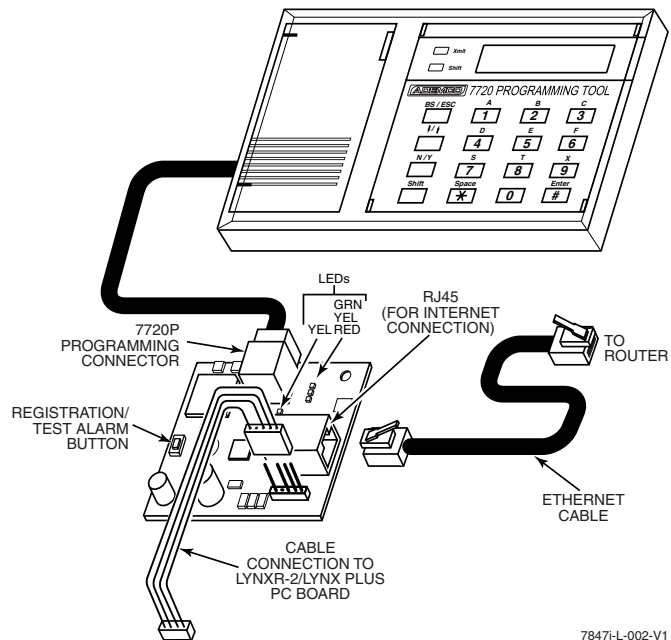

Figure 1 – Electrical/Ethernet Connections
1. Connect one end of the Ethernet cable (Category 5) to the RJ45 Ethernet connector and the other end to a cable/DSL router as shown in Figure 1.
2. Connect the provided ECP Power/Communications cable PN 900-00801 between the device and the ECP/Communications receptacle on the Lynx Plus as shown in Figure 1.